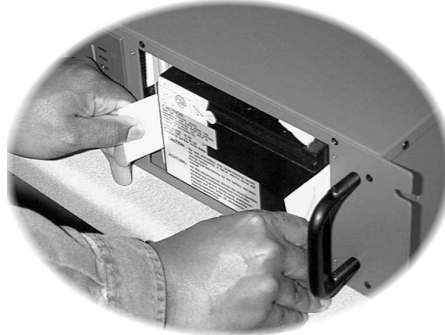
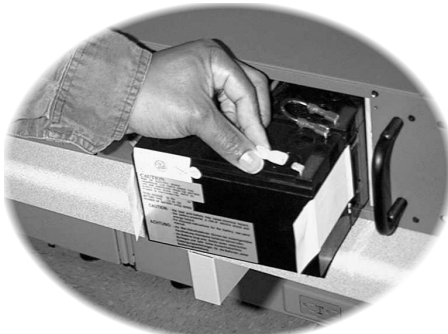

Figure 3
Figure 4
3. **700/1000/1400 VA models:** Gently pull on the white tabs located on both sides of the battery until wiring is exposed (Figure 3). Disconnect red wire (+) (figure 4) and the black wire (-) (figure 5).